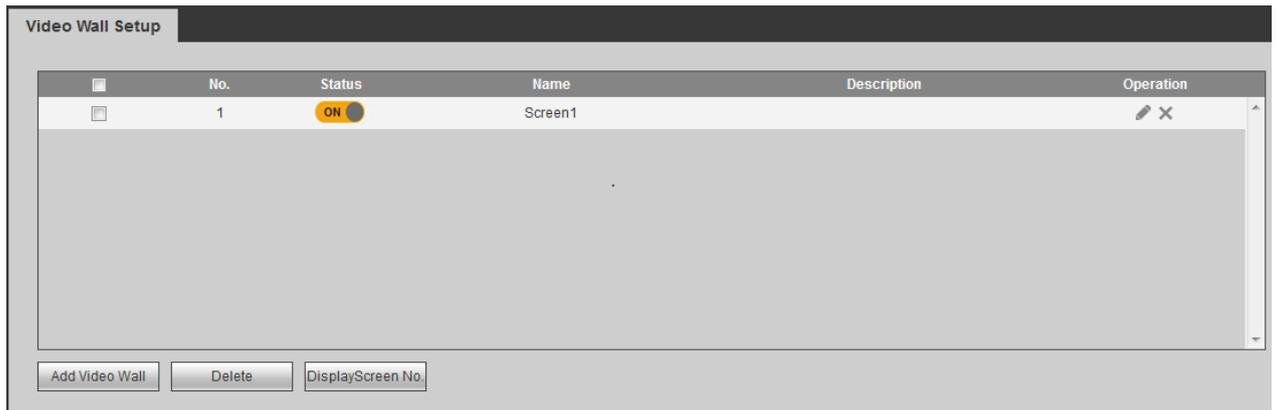

Figure 3-8
Step 6 Click “Done”. The system exits “Video Wall Layout Config”. New video wall will be displayed in the list, as shown in Figure 3-8.